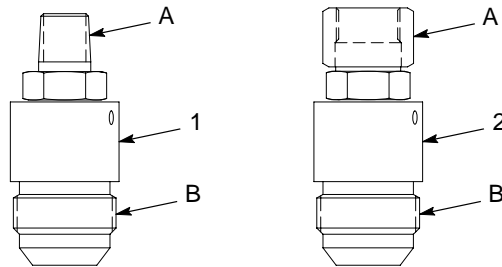

Figure 2 Small Swivels—Typical Combinations
See Figure 2 and Table 3 for straight swivel connectors.
NOTE A: Use item 1 (Figure 2) for reference. This swivel looks identical to item 1 but varies in size.